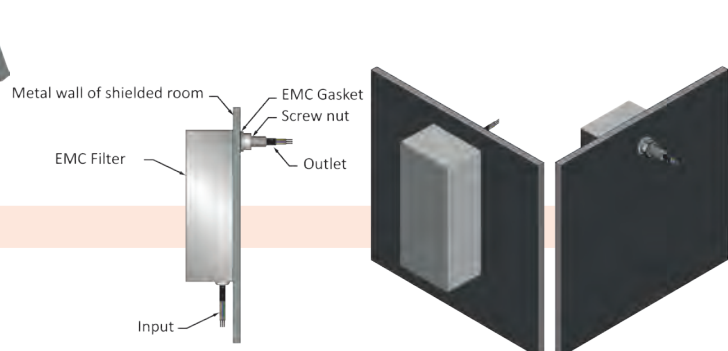

Figure 64: Example of a power line filter mounted on a Faraday cage wall
- 64 Filters for power, signals and data.** A power line coming from the grid function as an antenna of immense length and brings many unwanted frequencies with it. It has to be “cleaned” by a filter before entering the shielded room. The same goes for signal lines and pipes going into the housing. They will work as an antenna and interfere with the shielding. (Fig. 64)